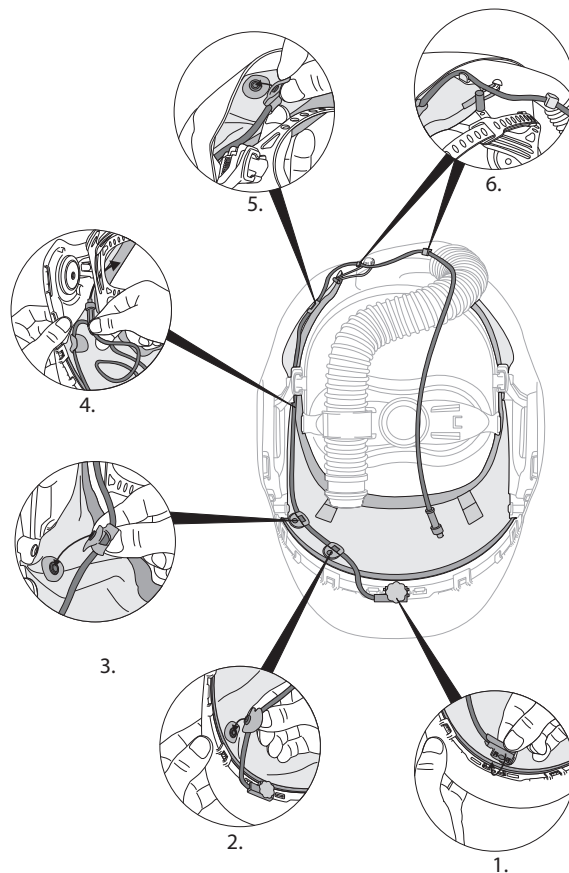

Fig. 31b
- iii. Continue routing the cable between the welding helmet and the head suspension, snapping at the rear of the welding helmet and finally hooking around the retention loop at the rear of the welding helmet (Fig. 31b).